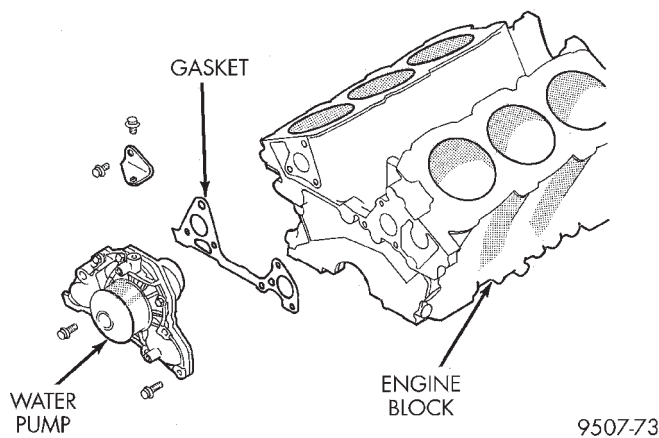
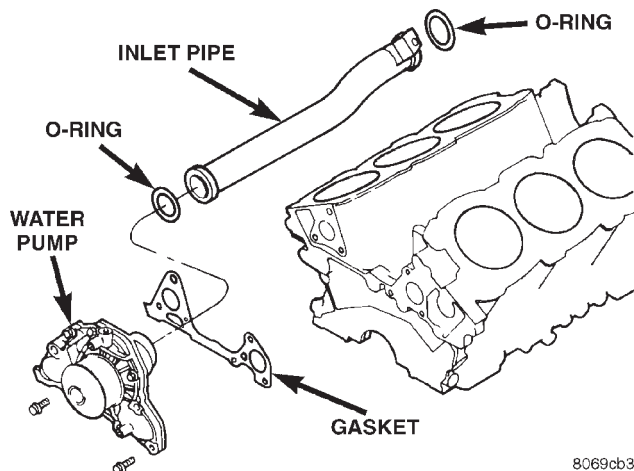

Fig. 24 Water Pump—2.5L Engine
Fig. 25 Water Pump Inlet Tube
- (1) Drain cooling system. Refer to Draining Cooling System in this group.
- (2) Remove mounting bolts.
- (3) Separate pump from water inlet pipe (Fig. 25) and remove pump (Fig. 24).